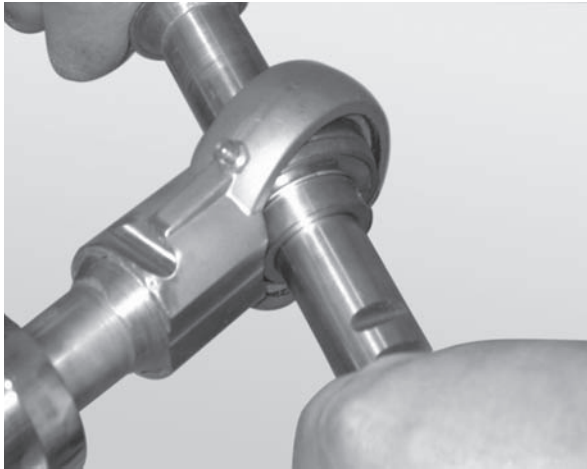

Figure 82
2. Insert the rod end of a second bearing shaft through the bearing (**Figure 82**).